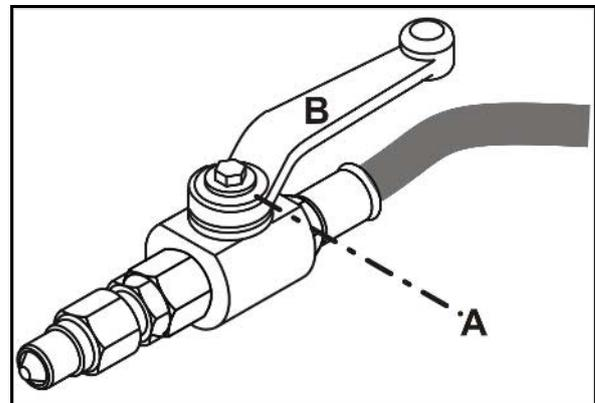

Fig. 55
Stop tap on the hydraulic hose (Fig. 55):
2. Secure the ground wheel by using the chain (Fig. 55/2) and clip pin (Fig. 55/3).